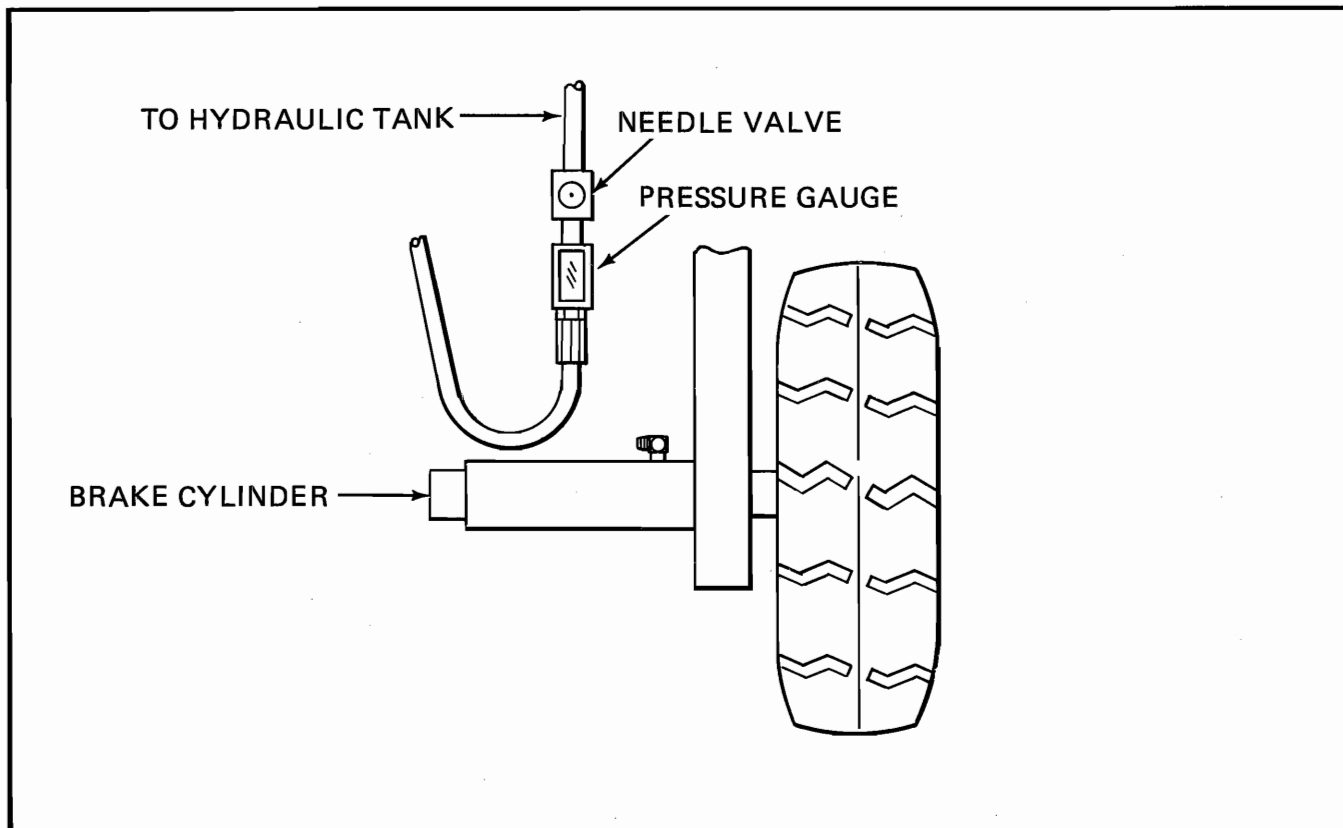

Figure 5-5. Counterbalance Valve
(1) Disconnect the hydraulic hose from the brake cylinder and connect a pressure gauge and needle valve with a return line to the hydraulic tank (Figure 5-5).